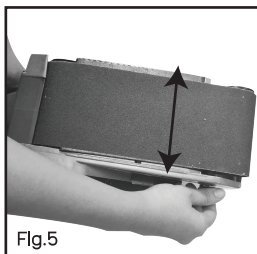

Fig.5
5. BELT CENTERING CONTROL (See Fig.5)